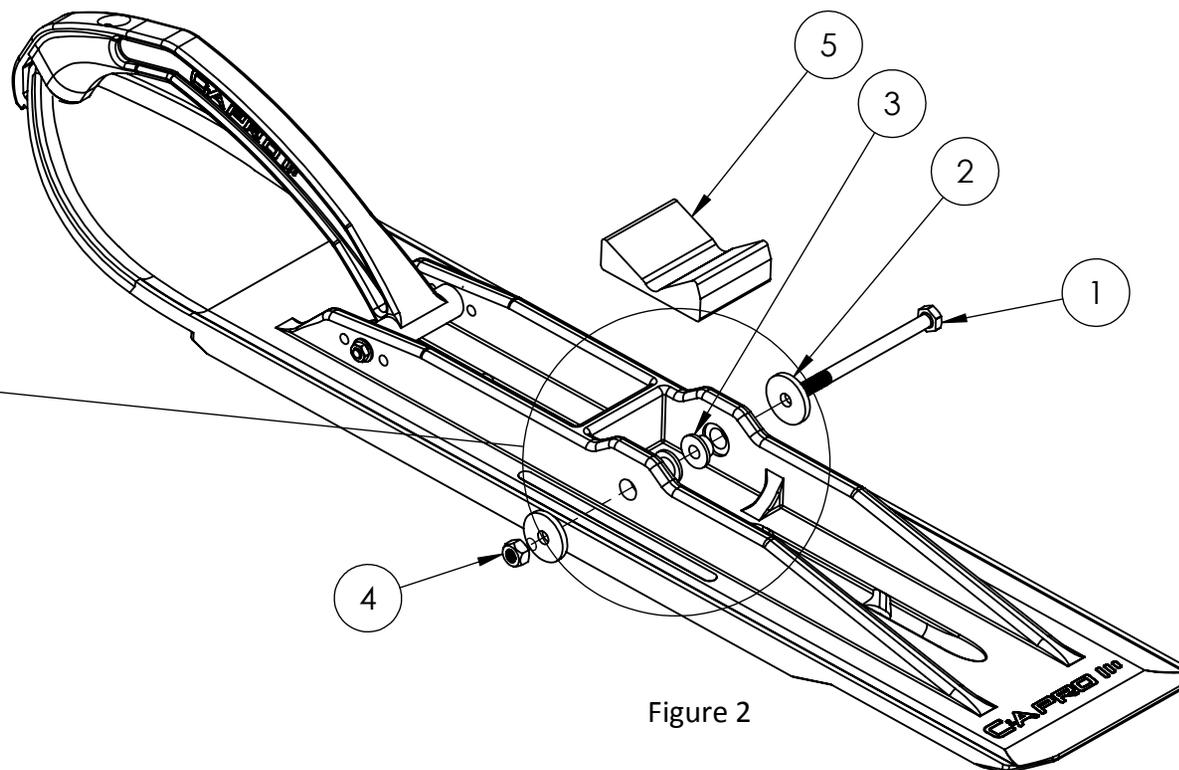

Figure 2
5. Place the rubber dampener in the ski, tall side of dampener to the rear. (see Figure 2 for dampener orientation)